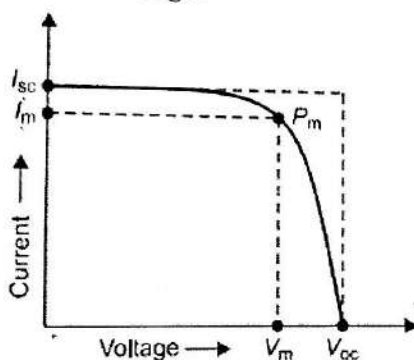

Fig.3
e.m.f.. When a high resistance is introduced in the external circuit a small current flows through it and the voltage decreases. The voltage goes on falling and the current goes on increasing as the resistance in the external circuit is reduced. When the resistance is reduced to zero the current rises to its maximum value known as saturation current and is denoted as I_{sc} , the voltage becomes zero. A V-I characteristic of a photovoltaic cell is shown in Fig. 3.
h) Draw a graph between V and I (fig. 3).